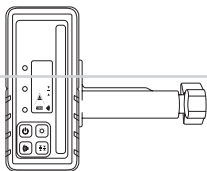
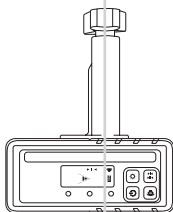
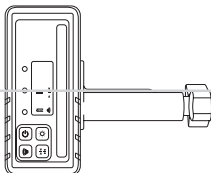

FIGURE 2
FIGURE 3
FIGURE 4
- Hold the detector upright for horizontal beams (Fig. 2) or rotate 90° for vertical beams (Fig.3).
- The direction arrows or level line on the LCD screen will indicate the position of the laser beam. A digital increment display will indicate the position of the laser beam (Fig. 2 & 3). The detector will emit a constant beep once the level position has been located (Fig. 4).